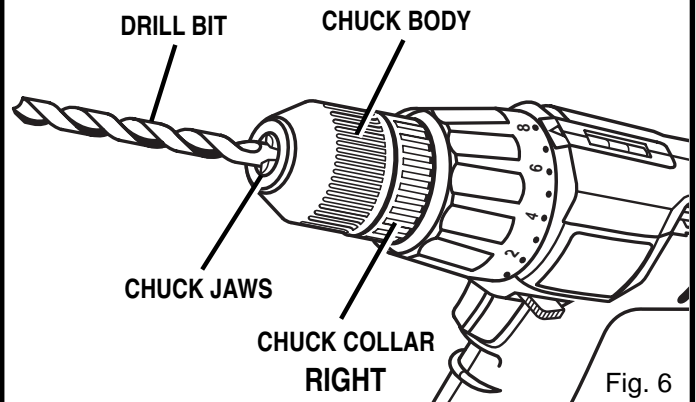

Fig. 6
- Insert your drill bit into the chuck the full length of the jaws. See Figure 6.
See Figure 6.